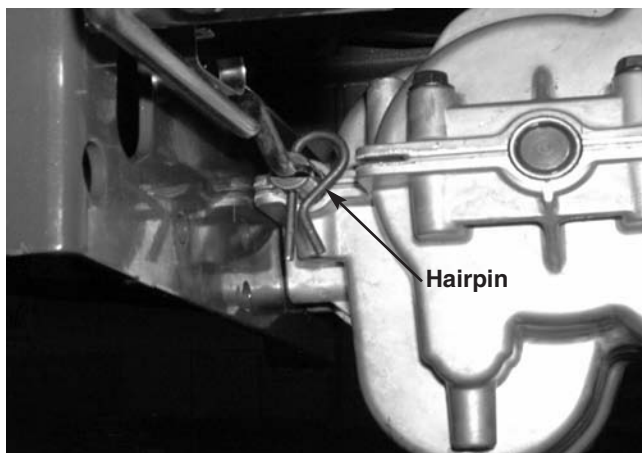

FIGURE 2.
- 7). Remove the hair pin that secures the shift linkage to the shift fork and set the shift linkage aside. See figure 2.